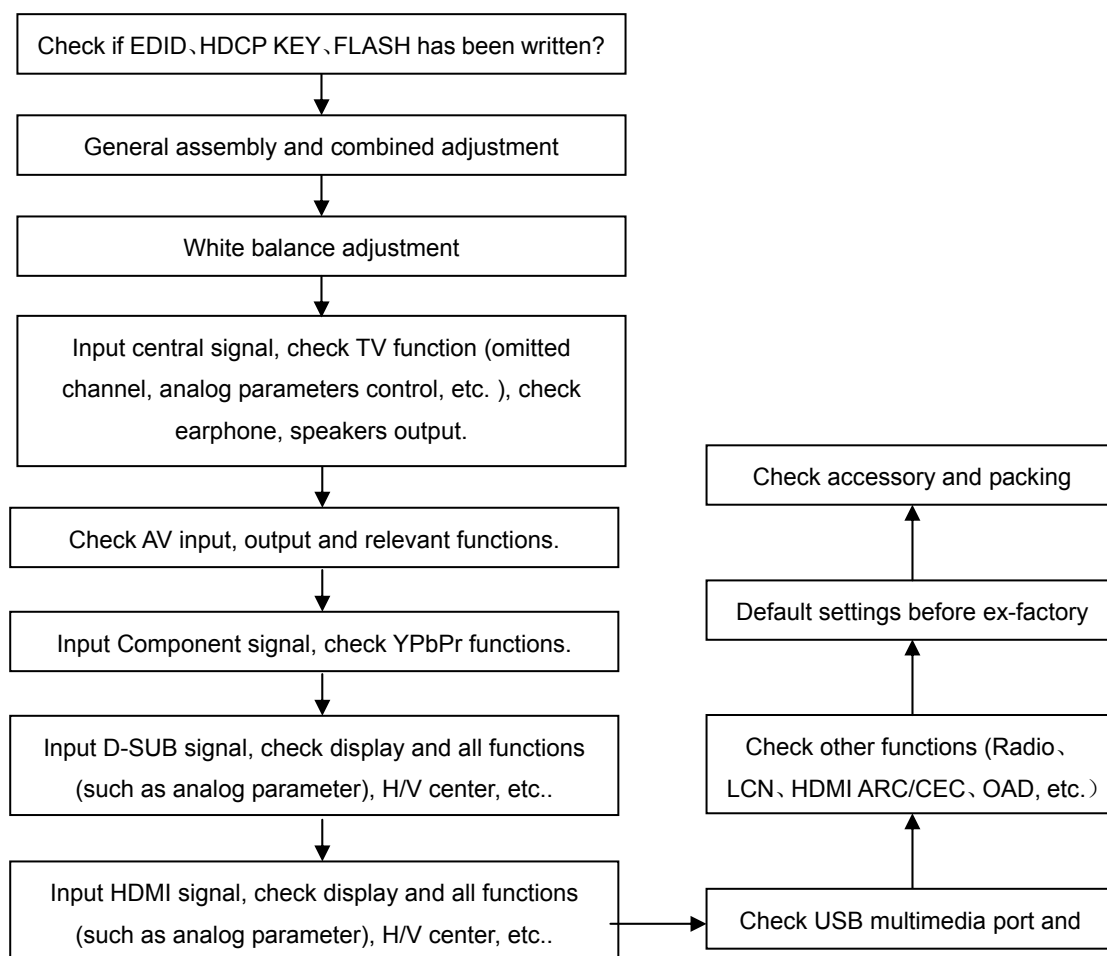

Fig. 1 Adjustment flow chart
3.2 Adjustment flow as Fig. 1: